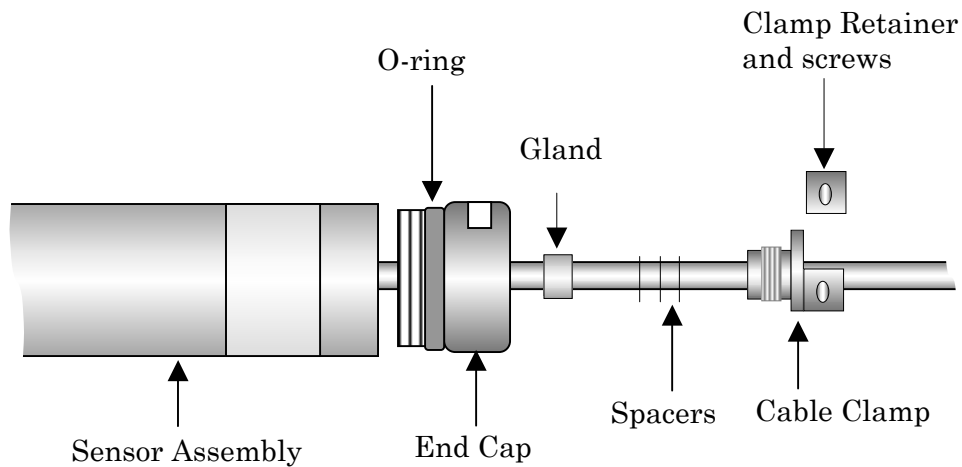

Figure 1. Assembly Parts
1. Loosen both screws on clamp retainer, see figure 1.